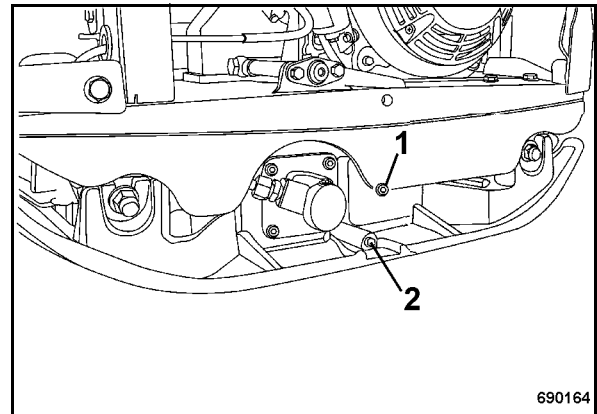

Fig. 46
- Unscrew the bleeding screw (1) (Fig. 46).
- Unscrew the oil drain plug (2) and check the oil level.